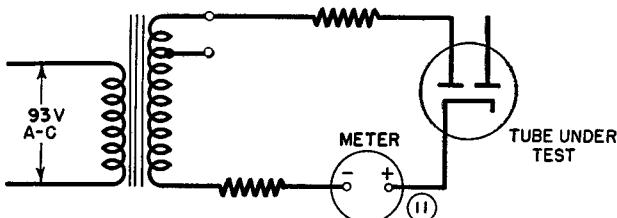

Figure 5. Tube Tester I-177, simplified rectifier test circuit.
17. RECTIFIER TEST (fig. 5). This circuit is used for making emission tests of standard full-wave rectifiers, diodes and 0Z4 tubes. An a-c voltage of definite value is applied between a cathode and plate of the tube under test, through resistors and the meter. The total resistance and the voltage are set automatically to the correct values for a GOOD-REPLACE meter reading when selector switches A and B are set at the positions specified on the test data card for the tube being tested. As an example, one plate of a four-prong full-wave rectifier is connected into the circuit when selector A is set at position 1. The second plate is connected into the circuit when selector A is set at 3. The special pushbutton for 0Z4 rectifier tubes provides a higher plate-cathode voltage than is used for heater or filament-type rectifiers, with a resistor in the circuit to limit the current if the tube elements are shorted. The special pushbutton for diodes provides a lower voltage than for regular tubes. It also provides a protective series resistance.